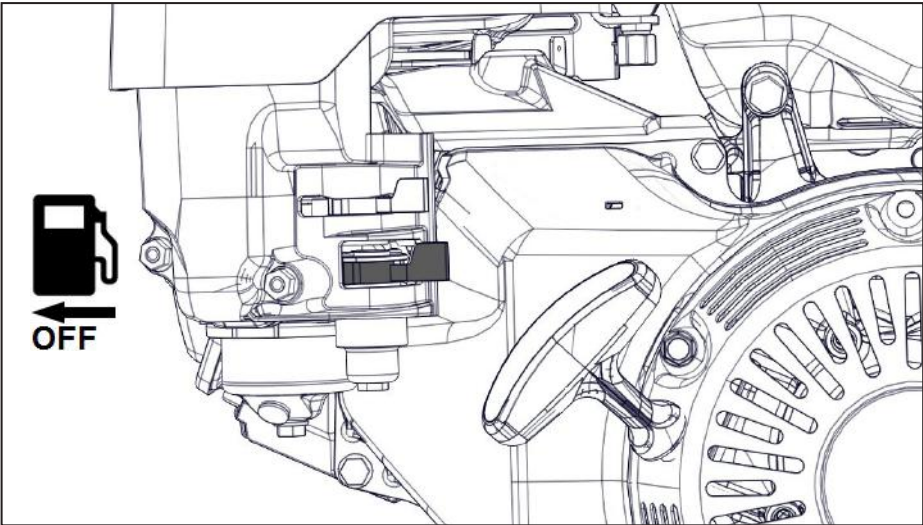

Figure 23 — Shut off fuel
- 5) Move the fuel shut off valve all the way to the left to shut off the fuel (Figure 23)